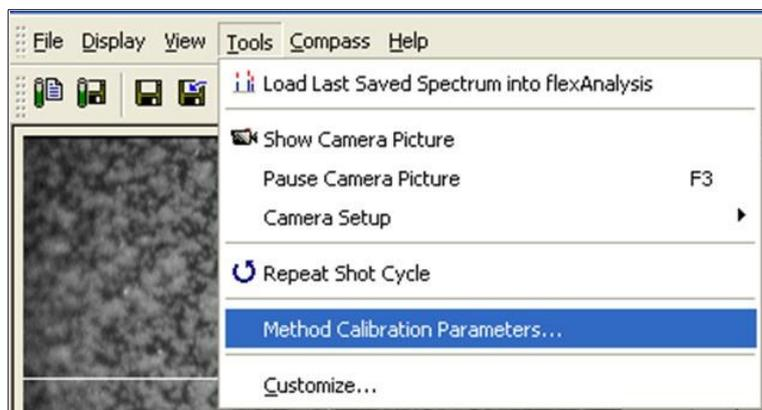

Figure 6 Method Calibration Parameters command from Tools menu
4. Select **Tools > Method Calibration Parameters** (Figure 6) to set or check the calibration settings of the flexControl method.